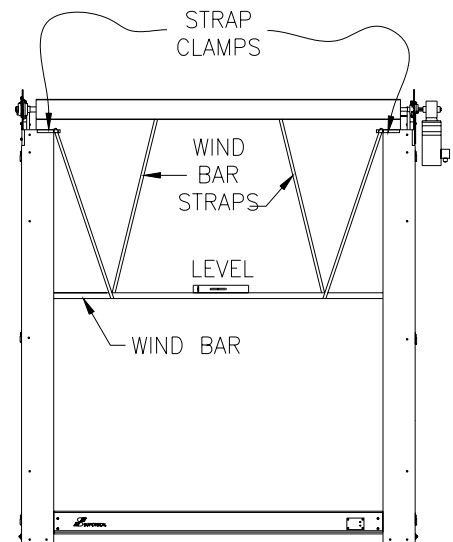

FIG. 11
- On one side, **wrap a Wind Bar Strap underneath and around the Wind Bar** (Figure 11).